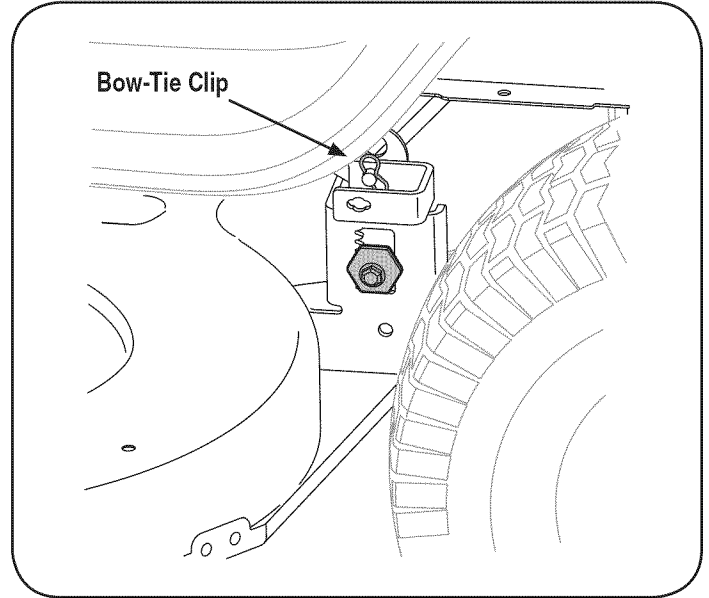

Figure 21
5. Looking at the cutting deck from the left side of the tractor, locate the bow-tie pin that secures the deck support rod on the rear left side of the deck. See Figure 21. Remove the bow-tie pin that secures the deck support rod, and carefully remove the deck support from the deck lift arm.